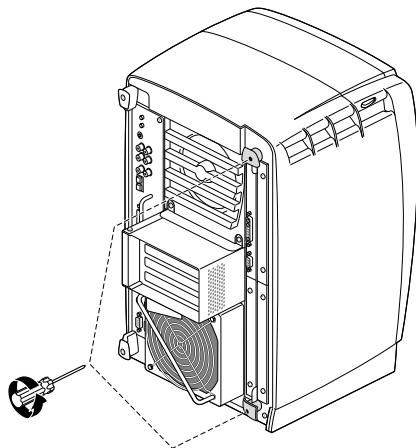

Figure 7 Loosening the XIO Module Screws
1. Use the provided Phillips reversible screwdriver to loosen the two captive screws in the XIO Quad-Module handles until the screws are disconnected from the chassis, as shown in Figure 7.